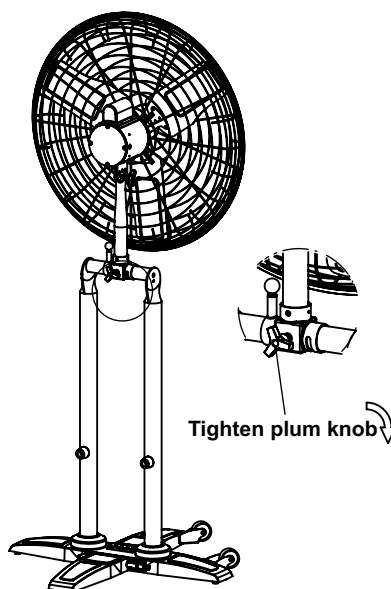

Figure 8
7. Lock in position by tightening the plum knob. (Figure 8)